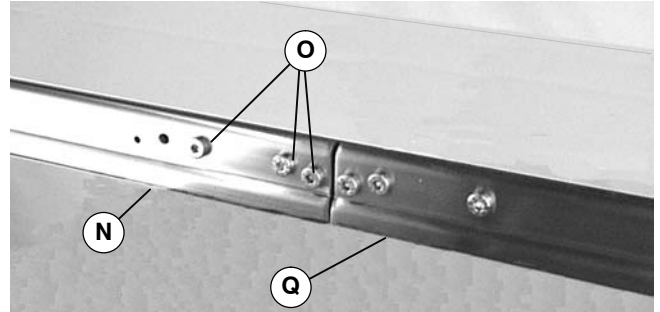

Figure 7
5. Join conveyor sections (N and Q of Figure 7). Install screws (O) through frame and into connector bar (P) on both sides. Tighten screws to 60 in-lb (7 Nm).